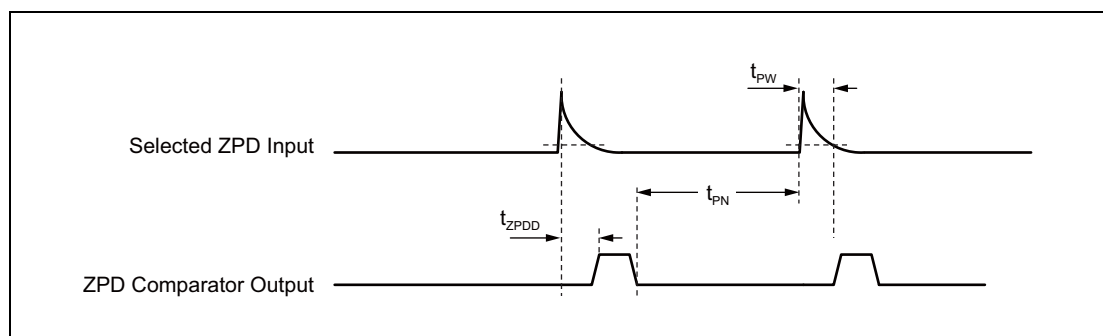

Figure 1.27 Timing of ZPD Function
- For the timing of the ZPD function refer to **Figure 1.27, Timing of ZPD Function**.